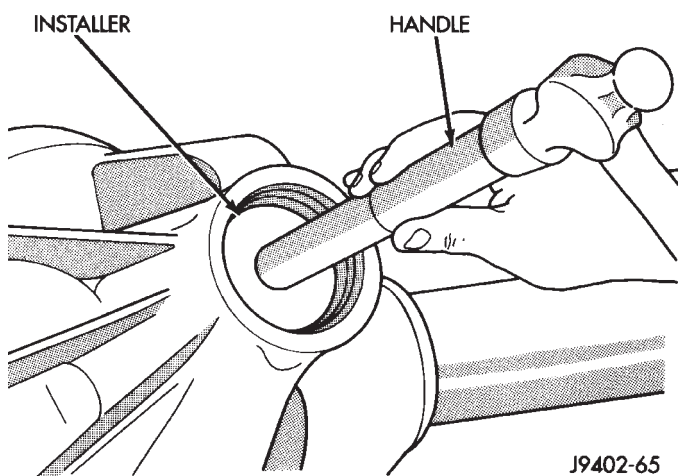

Fig. 44 Pinion Outer Bearing Cup Installation
(3) Apply Mopar® Door Ease, or equivalent, stick lubricant to outside surface of front pinion bearing cup. Install the bearing cup with Installer D-130 and Handle C-4171 (Fig. 44).